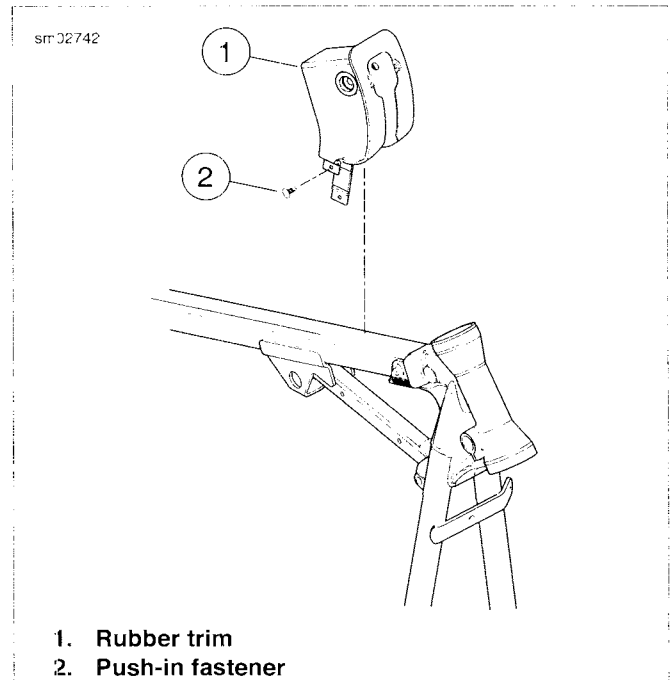

Figure 7-86. Rubber Trim
11. See Figure 7-86. On all but FXCWC, remove push-in fastener (2) from rubber trim (1) on frame. Disconnect connectors:
8. See Figure 7-86. On all but FXCWC, insert push-in fastener (2) into rubber trim (1) on frame.